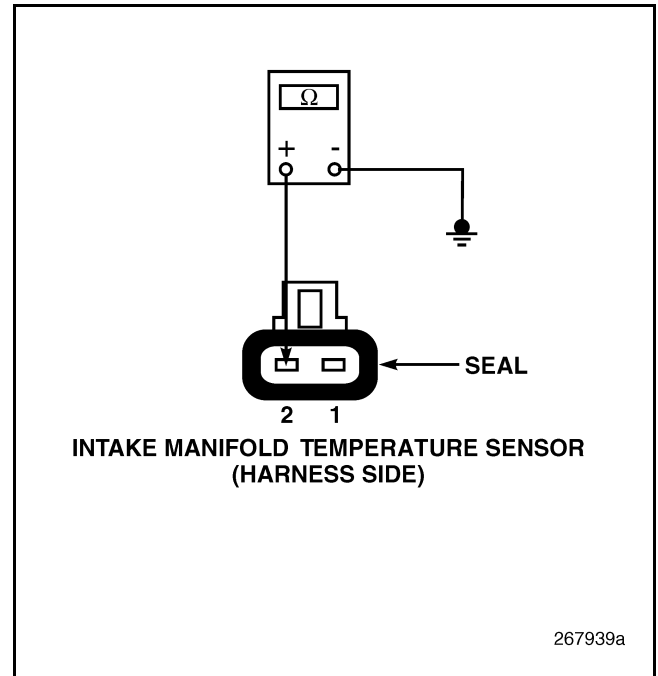

Figure 215
4. Check for continuity between pin 2 of the IAT Sensor harness connector and a good ground (see Figure 215).